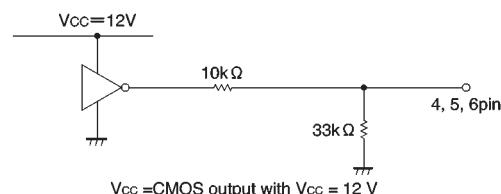

Fig.7
(1) Though the IC input pins can be directly connected with MOS output pins, it is recommendable to connect resistors of about $3 \sim 30\text{k}\Omega$ between the pins for the sake of pin protection (see Fig. 7).
(2) When reversing the rotational direction of a motor, make sure to go through the brake mode in-between the opposite directions. It is recommendable to keep the brake mode for at least $10\mu\text{s}$.
(3) Powering procedures should be designed so that V_{CC1} (pin 7) always rises first and falls last.
(4) The quality of these products have been carefully checked; however, use of the products with applied voltages, operating temperatures, or other parameters that exceed the absolute maximum rating given may result in the damage of the IC and the product it is used in. If the IC is damaged, the short mode and open modes cannot be specified, so if the IC is to be used in applications where parameters may exceed the absolute maximum ratings, then be sure to incorporate fuses, or other physical safety measures.
(5) Input pins